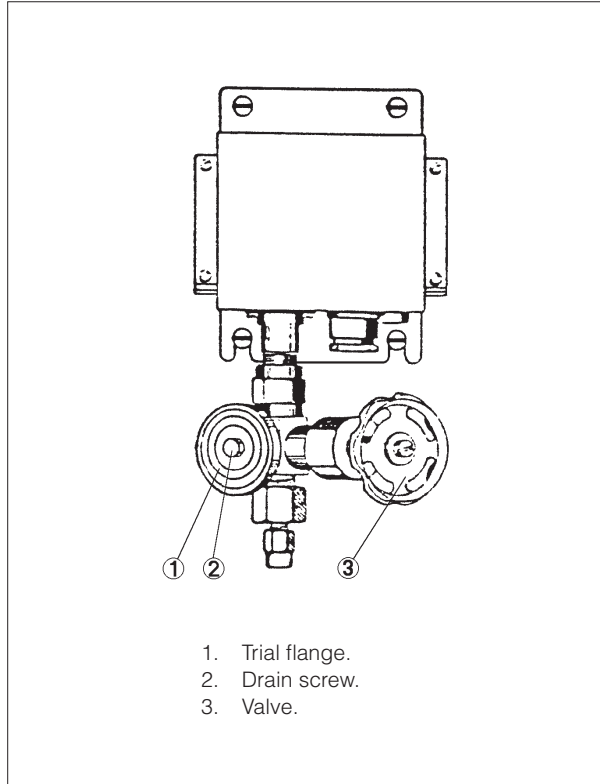

Fig 2.
3) Shut off system pressure with the valve pos 3, *fig 2*.